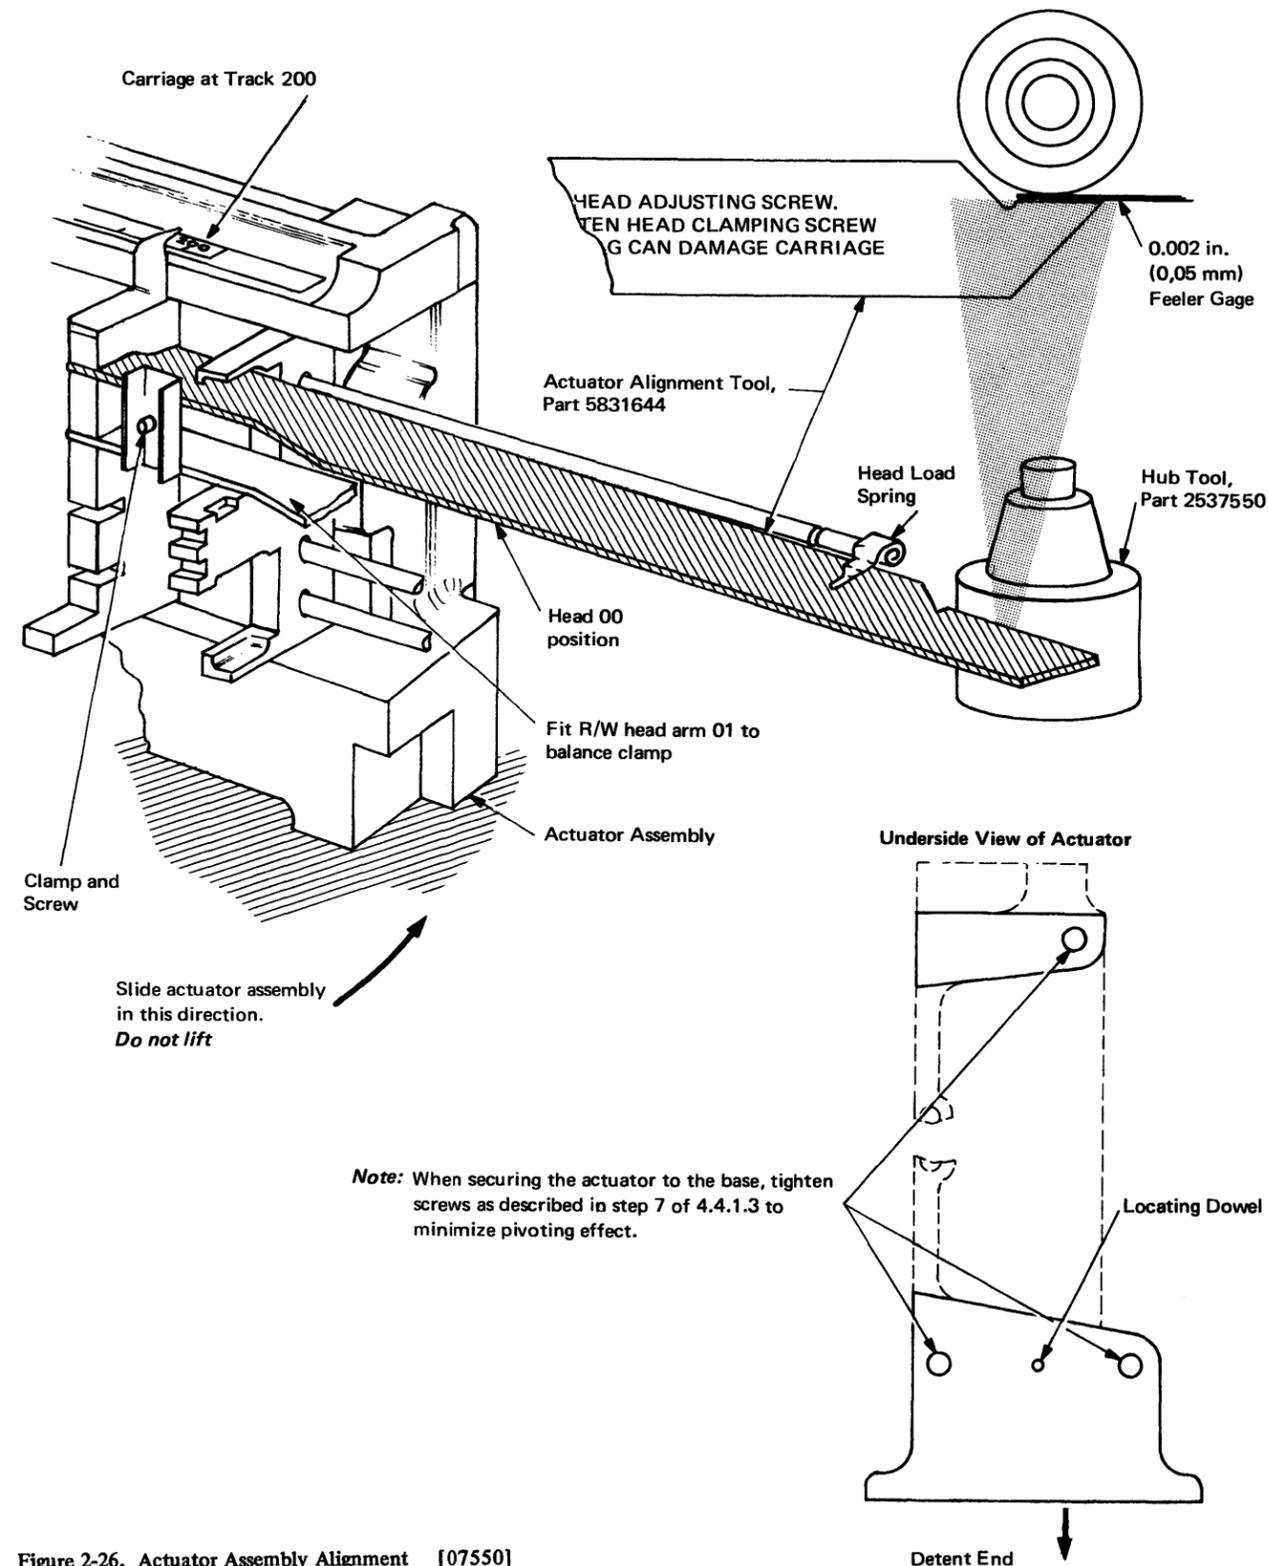

Figure 2-26. Actuator Assembly Alignment [07550]
2. Make sure that mating faces of actuator and base casting are clean. Insert actuator assembly through casting and locate by the dowel (see Figure 2-26).
2. Ensure that actuator assembly is firmly on base casting but is free to pivot on dowel (Figure 2-26).
4. Back off adjusting screw of top head arm. Fit actuator alignment tool, part 5831644, in the top (00) position (see Figure 2-26); register the tool snugly on the locating faces. Fit one R/W head arm in position 01 to balance the clamp. Fit clamp and tighten clamp screw.